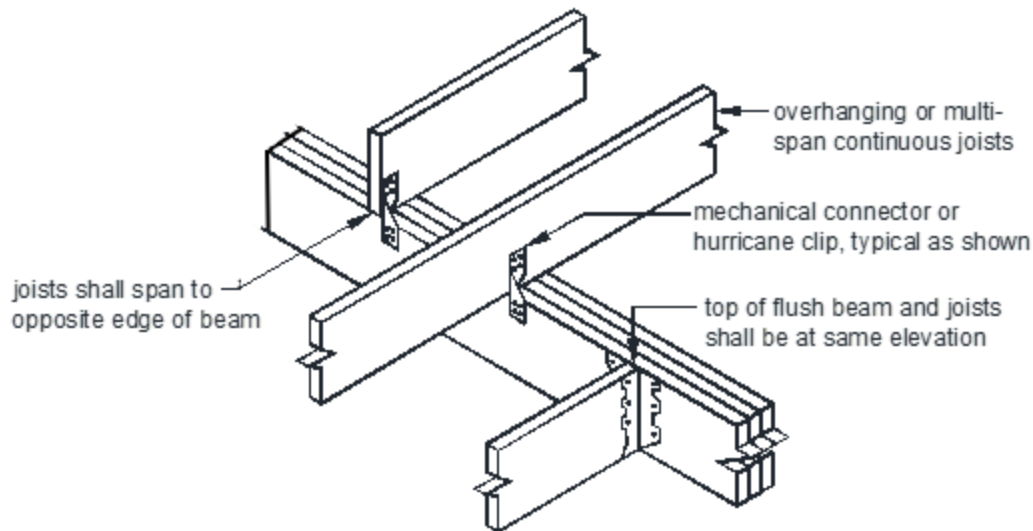

FIGURE 5: JOIST-TO-BEAM CONNECTION
- Each joist shall be attached to the beam in accordance with FIGURE 5.
- As shown in FIGURE 5, multi-span joists are permitted to span continuously over a dropped interior beam with one mechanical connector or overlap with a mechanical connector at each joist.